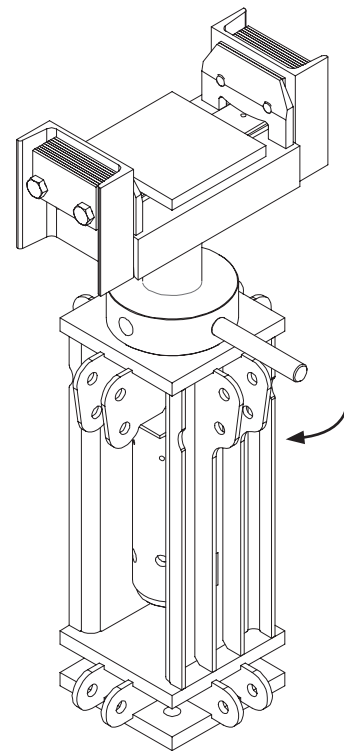

Fig. D1.02
2. Turn the mounting shaft VST (29) in a clockwise direction in order to spindle out the spindle head. (Fig. D1.02)